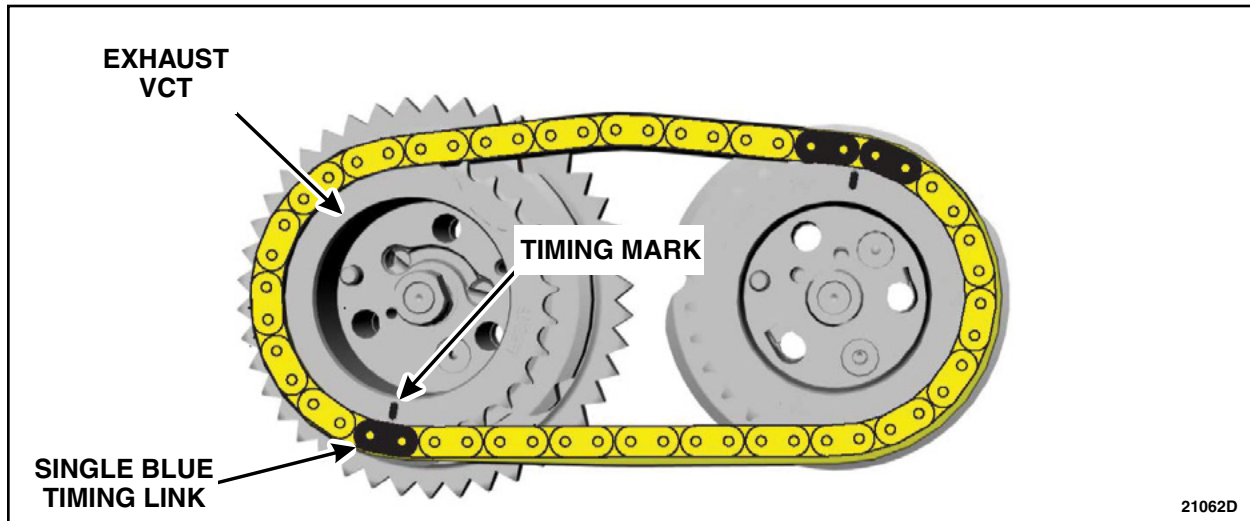

FIGURE 5
2. Using the crank bolt, rotate the engine until the single blue timing link is aligned to the timing mark on the exhaust VCT. See Figure 5.